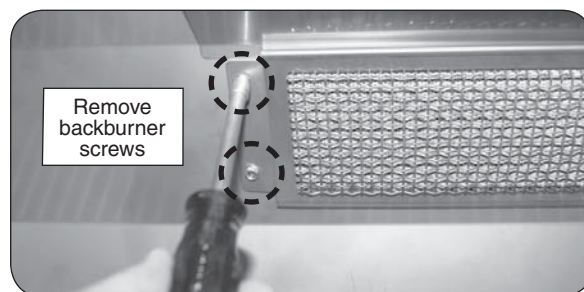

Fig. 28-3 Remove backburner mounting screws
2. Remove the backburner mounting screws (1/4" hex) located at the left end of the backburner assembly (see Fig. 28-3).